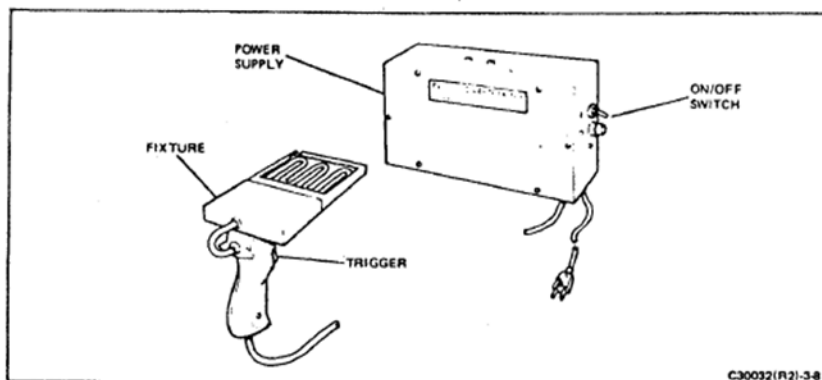

FIGURE 3-8 LIGHT-LEAK TEST SYSTEM
4. Light Leak Tester (Figure 3-8)